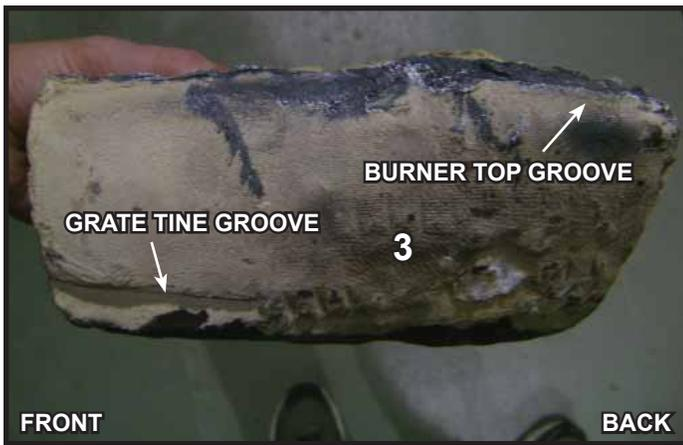
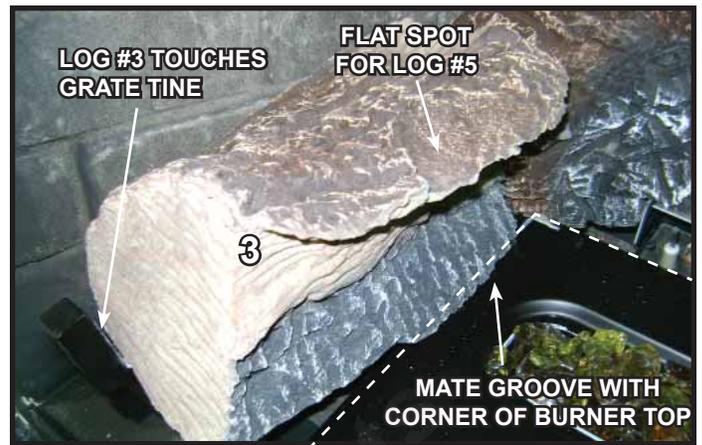
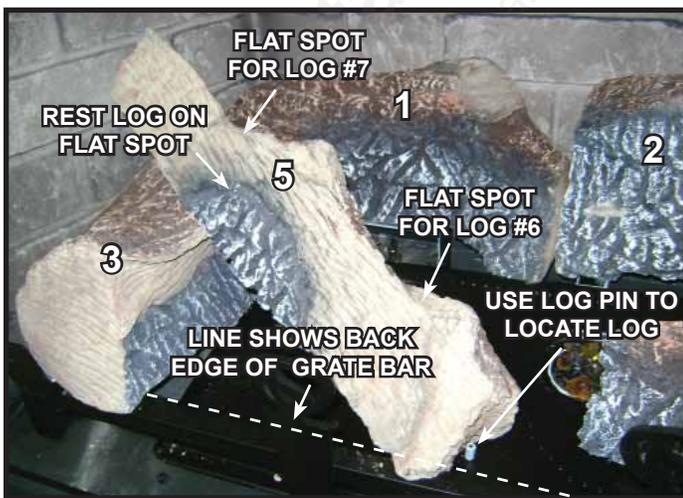

Figure 6. Log #3 - Bottom View
Figure 7. Place Log #3
Figure 10. Place Log #5
**Log #3 (SRV2223-702):** Position Log #3 as shown in Figure 7. See Figure 2 and Figure 6 for additional references. Mate the grate tine groove with the base of the left grate tine. Slide the log forward until it stops against the vertical portion of the left grate tine. Mate the burner top groove with the left edge of the burner top as shown in Figure 7.
**Log #5 (SRV2223-704):** Position Log #5 as shown in Figure 10. See Figure 2 and Figure 7 for additional references. Rest the left end of the log on the flat spot of log #3. Locate the groove located on the right end of the log. Mate the groove with the grate bar. Use the left log pin to positively locate the right end of the log.